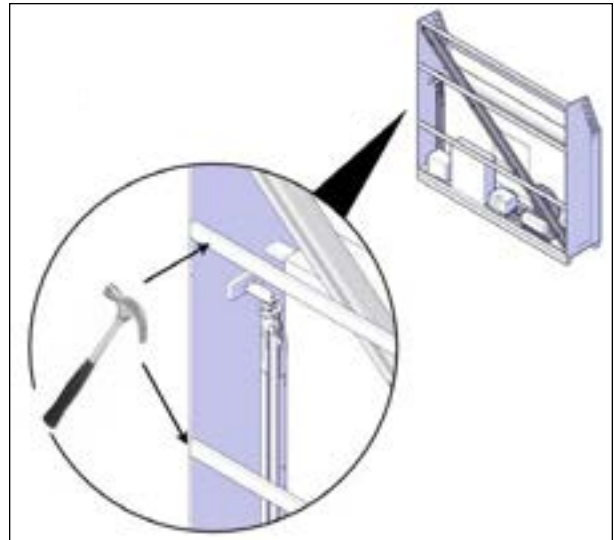

FIGURE 23: REMOVE CARDBOARD AND STRIPS
3. Hammer off the wood furring strips by hitting on the inside of the side panels Figure 23.